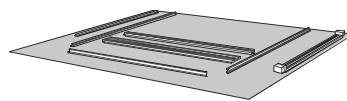

Fig. 2
2. Lay the parts out on a cleared area face down. Be sure to place a drop cloth over the floor to prevent scratching the trim kit and/or floor (Fig. 2).